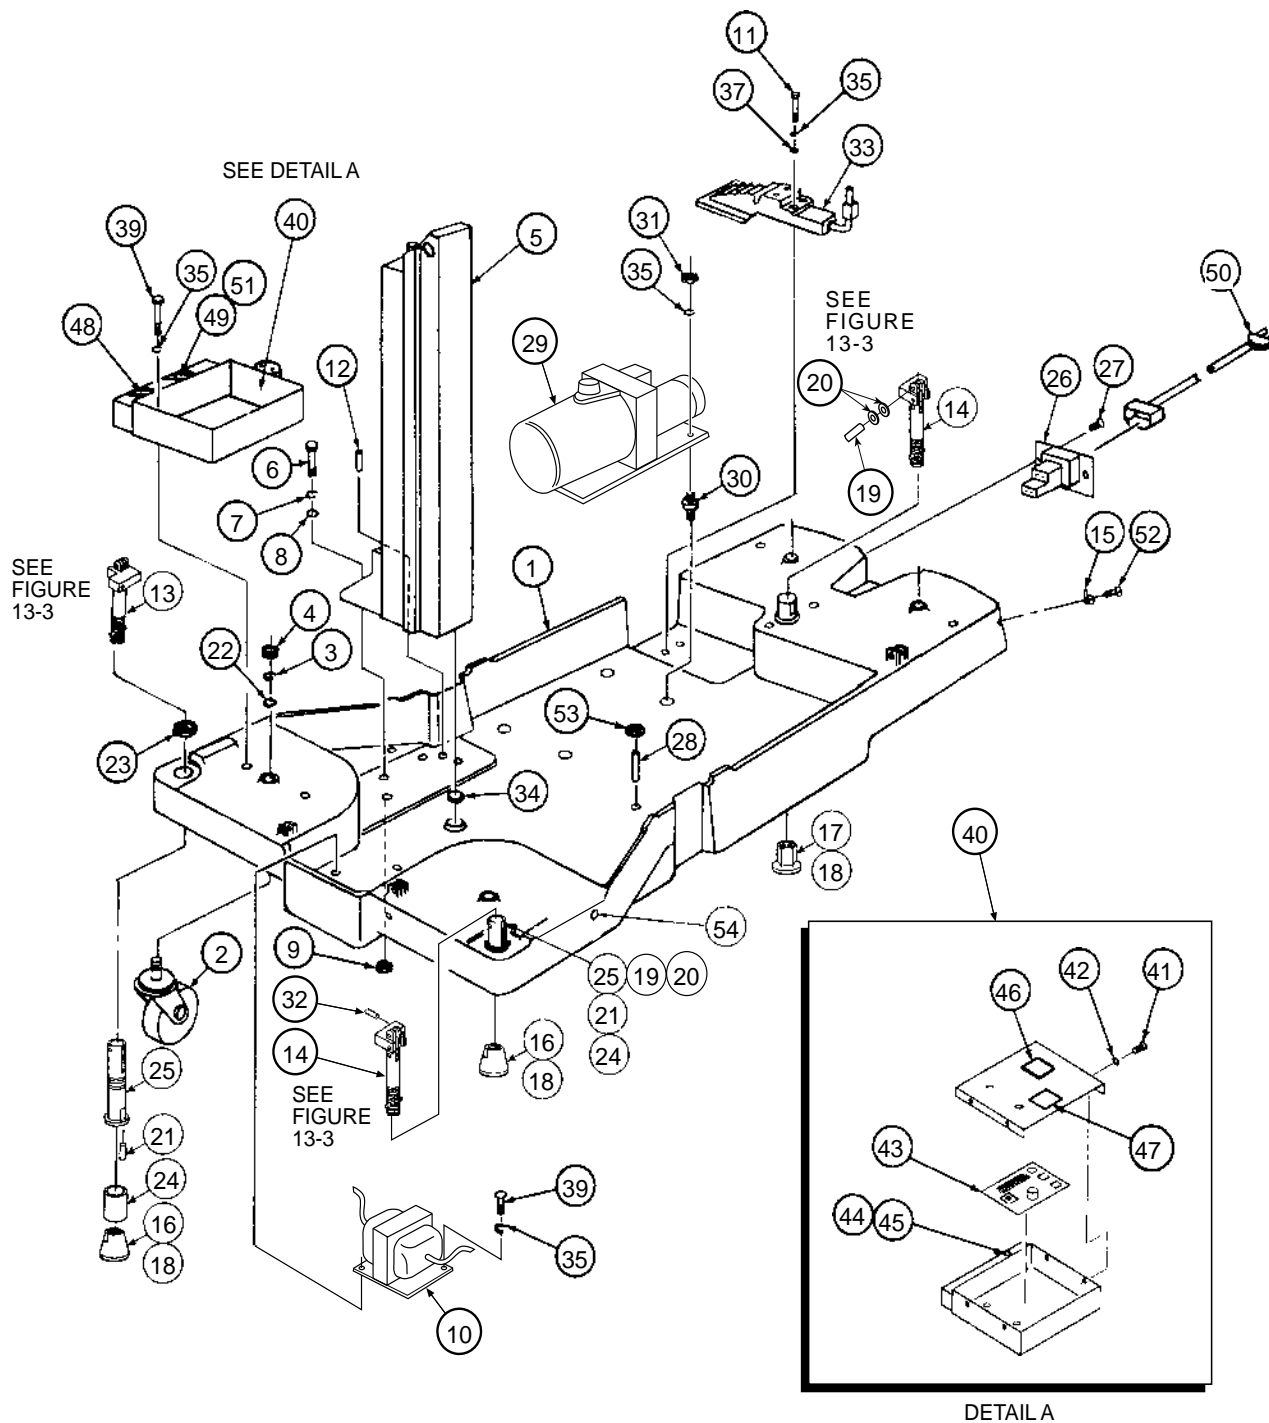

FIGURE 13-4. Table Base Assembly (Part 3 of 3)
<p>* Item #s 37 - 43 can be replaced as a complete assembly by ordering P-93908-634 (left-hand shaft and link assembly) or P-93908-635 (right-hand shaft and link assembly). See Figure 13-4, items 13 & 14 for a pictorial.</p>